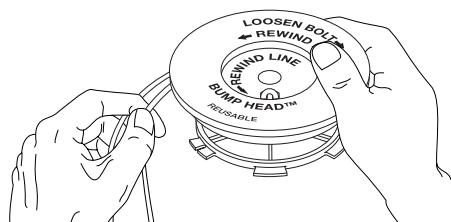

Figure 36
- Wind the lines in tight even layers, onto the reel. See Figure 36. Wind the line in the direction indicated on the inner reel. Place your index finger between the two lines to stop the lines from overlapping. Do not overlap the ends of the line. Proceed to step 11.